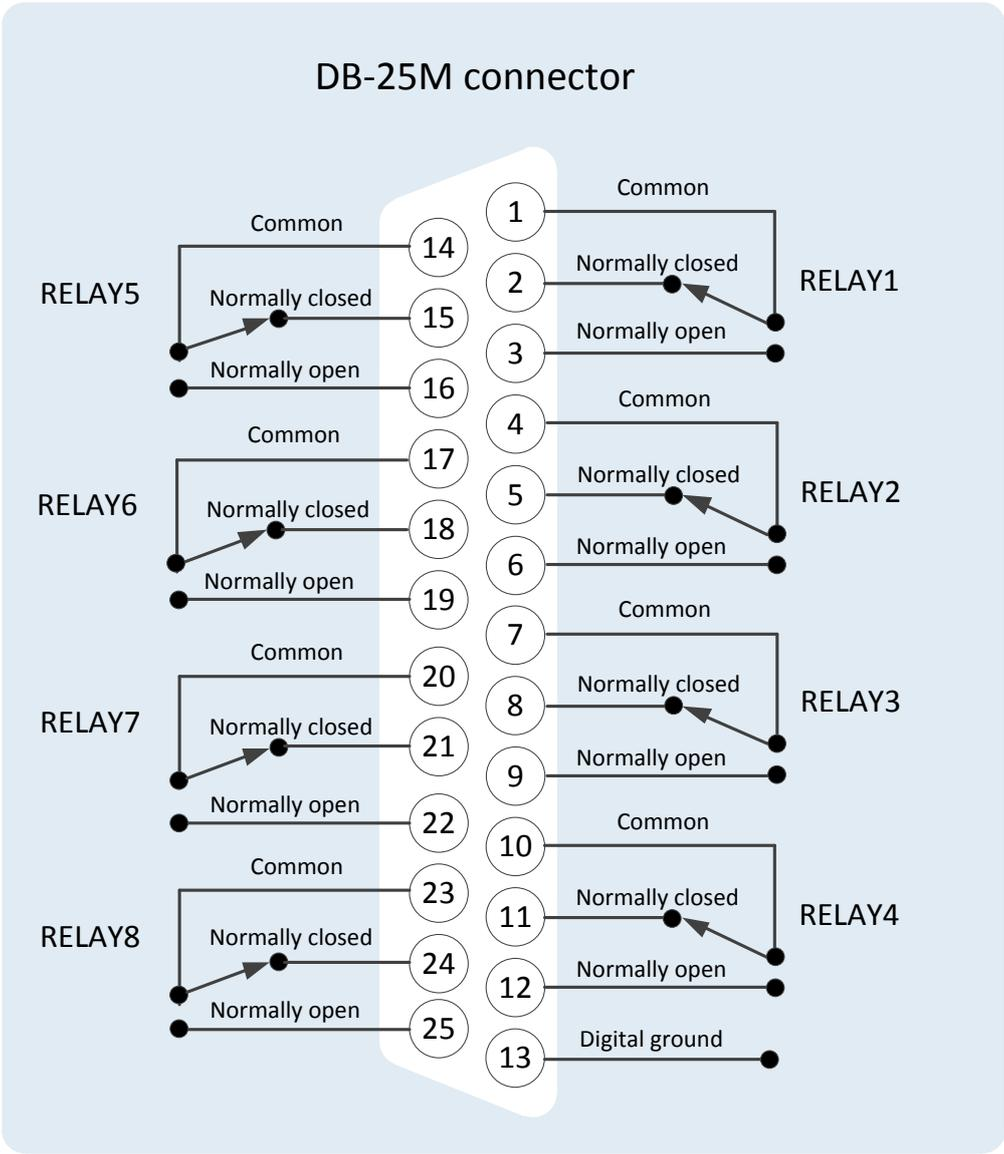

Figure 10: Pin configuration of the GPO connector (DB-25M)
**Note:** See also Figure 10: Pin configuration of the GPO connector (DB-25M) below.